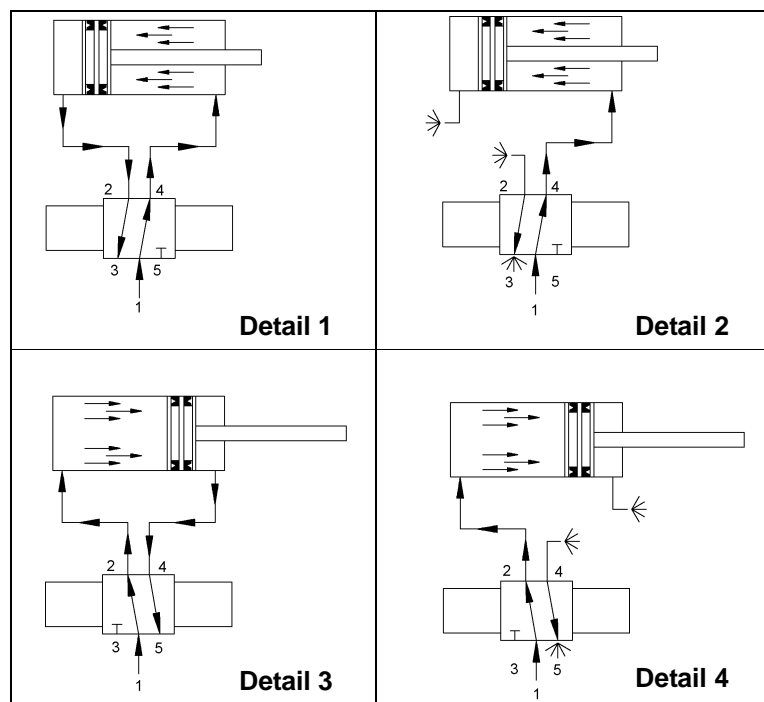

Figure 8B Valve Vs. Cylinder Leak Test Diagram
1. Cylinder retracted as shown *Detail 1* in *Figure 8B*.
- i. Disconnect the line between Valve Cylinder Port “2” and the cylinder per *Detail 2* in *Figure 8B*.
2. Cylinder extended as shown *Detail 3* in *Figure 8B*.
- i. Disconnect the line between Valve Cylinder Port “4”, and the cylinder per *Detail 4* in *Figure 8B*.